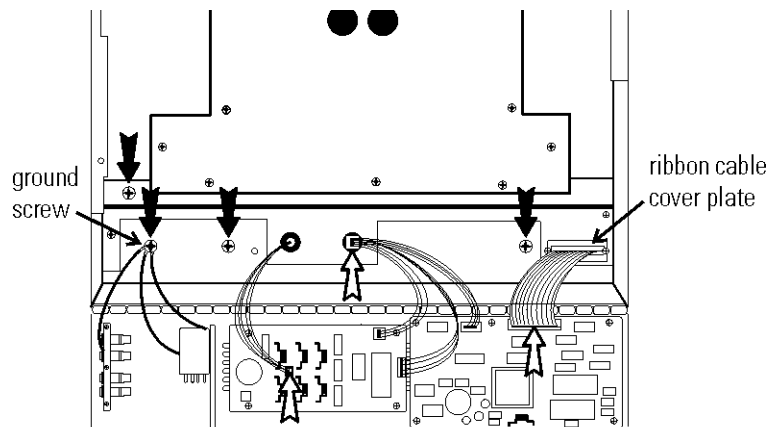

Figure 4-12. Screw and Ribbon Locations
5. Remove the four screws identified by the black arrows in Figure 4-12. Disconnect the ribbon connector from J2 of the microprocessor board (white arrow). Also remove the two screws from the ribbon cable cover plate on the base of the cabinet.
6. Remove the wiring connector from J2 of the motor control board (white arrow) and disconnect (separate) the square connector where the wiring enters the base of the unit (also identified by a white arrow in Figure 4-12).